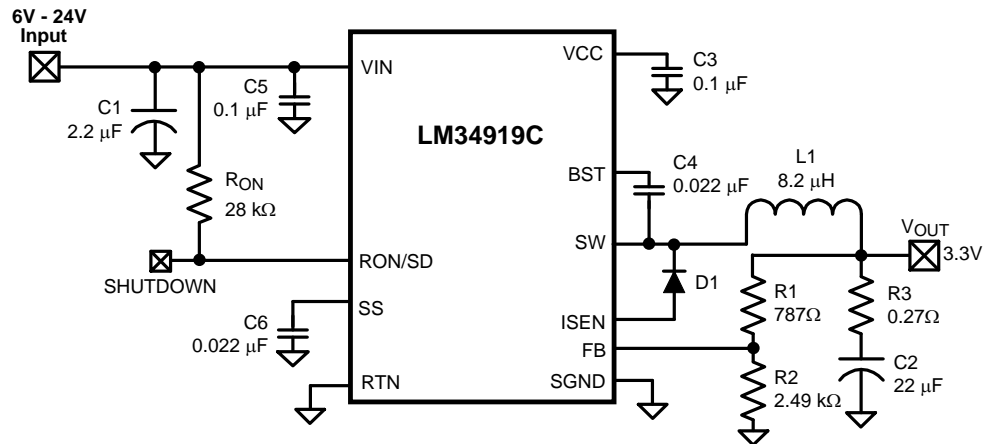
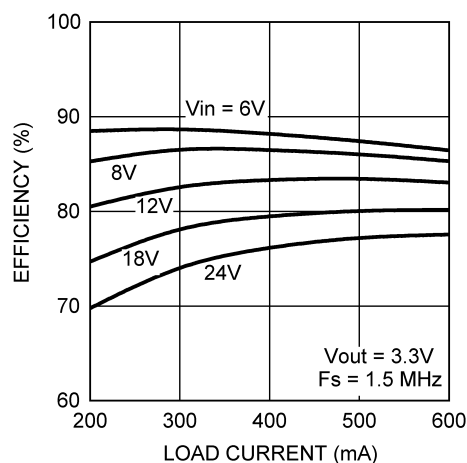
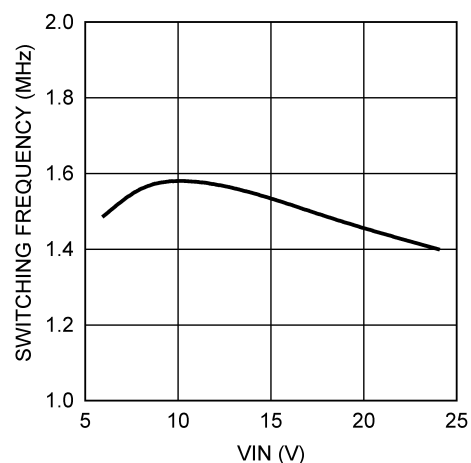
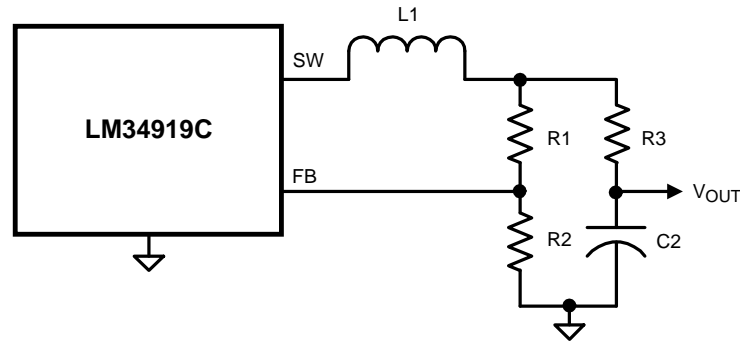

Figure 29. Example Circuit
Figure 30. Efficiency (Circuit of Figure 29)
Figure 31. Frequency vs. V_{IN} (Circuit of Figure 29)
Figure 34. Alternate Minimum Output Ripple Configuration
The final circuit is shown in Figure 29, and its performance is shown in Figure 30 and Figure 31. Current limit measured approximately 780 mA at 6V, and 812 mA at 24V.
c) Alternate minimum ripple configuration: The circuit in Figure 34 is the same as that in Figure 29, except the output voltage is taken from the junction of $R3$ and $C2$. The ripple at V_{OUT} is determined by the inductor's ripple current and $C2$'s characteristics. However, $R3$ slightly degrades the load regulation. This circuit may be suitable if the load current is fairly constant.